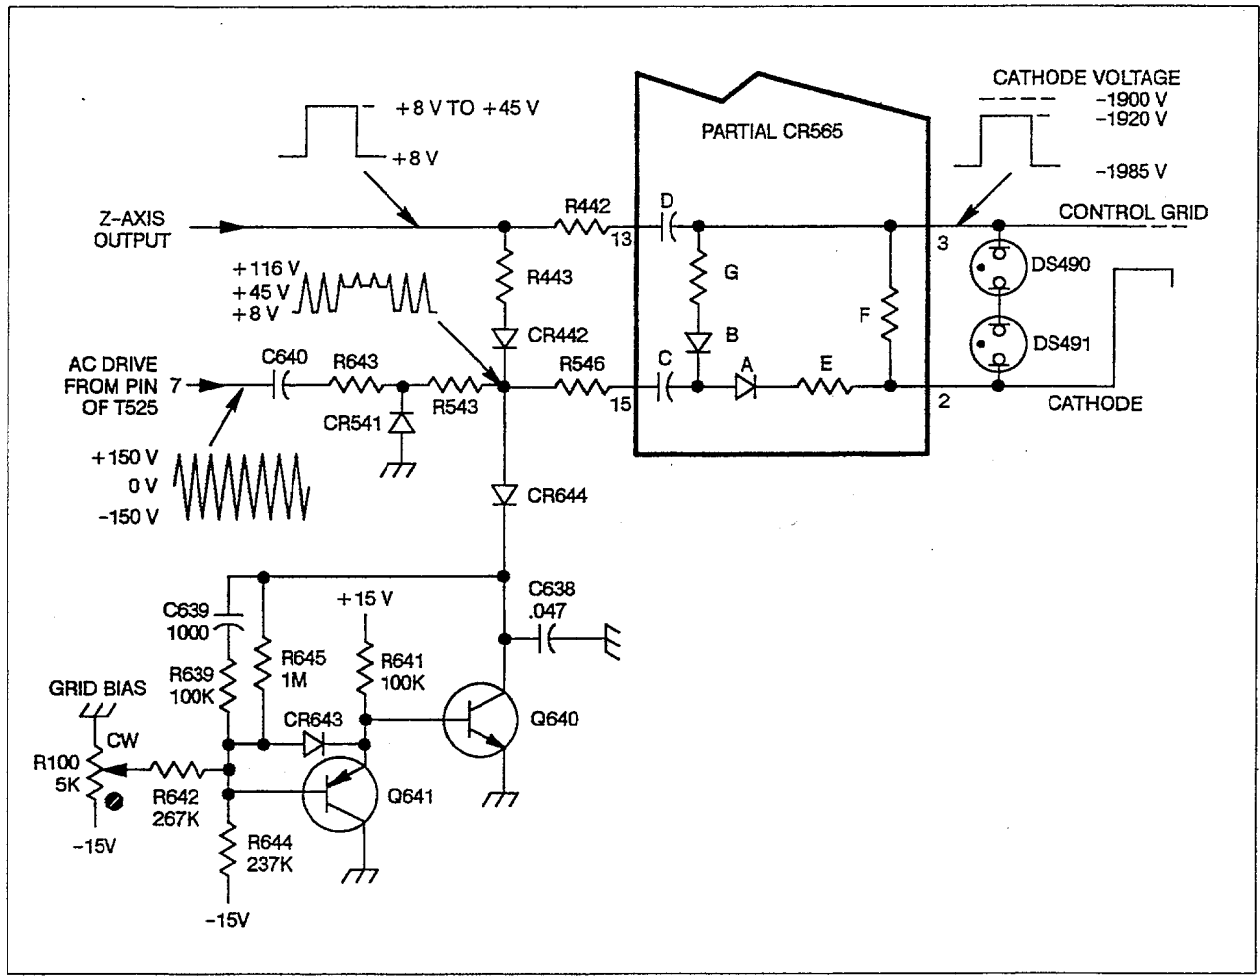

Figure 3-10. DC Restorer.
The DC Restorer provides CRT control-grid bias and couples both the DC and the low-frequency components of the Z-Axis drive signal to the CRT control grid. This circuit allows the Z-Axis Amplifier to control the display intensity by coupling the low-voltage Z-Axis drive signal (VZ) to the elevated CRT control grid potential (about -1.9 kV). Refer to Figure 3-10 for the following description.
DC RESTORATION. The DC Restorer circuit in the High-Voltage Module is referenced to the CRT cathode voltage via a connection within CR565. Capacitor C (labeling shown in fig. 3-10), connected to pin 15 of CR565, initially charges to a level determined by the difference between the Z-Axis signal level and the CRT cathode potential. The Z-Axis signal sets the level on the positive